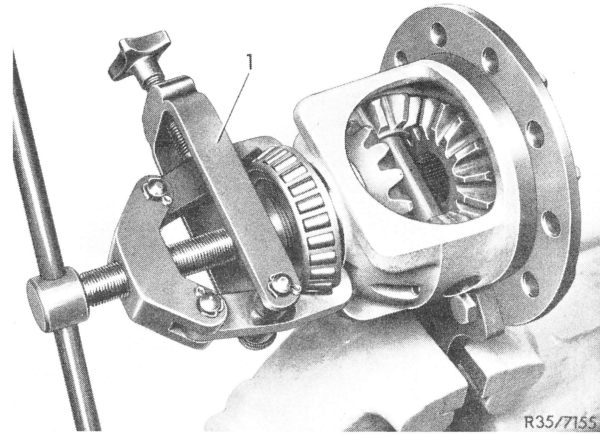

Fig. 3
- 2 Pull both tapered roller bearings from differential housing with pulling fixture (Fig. 3).